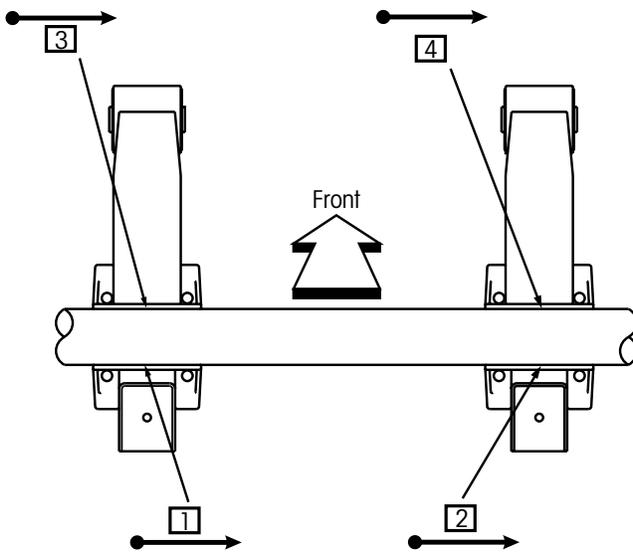

Figure 7: *Root pass sequence*
1. Beginning on the rear side of the axle/seat connection, place **four single root pass welds**, Figure 7.